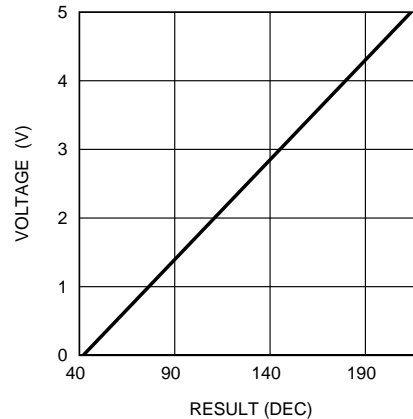

Figure 24. LED Test Results vs Measured Voltage
- This is used to store the LED test result. Read-only register. LED test ADC's least significant bit corresponds to 30 mV. The measured voltage  $V$  (typical) is calculated as follows:  $V = (\text{RESULT}(\text{DEC}) \times 0.03 - 1.478 \text{ V})$ . For example, if the result is 10100110 = 166(DEC), the measured voltage is 3.5 V (typical). See Figure 24.